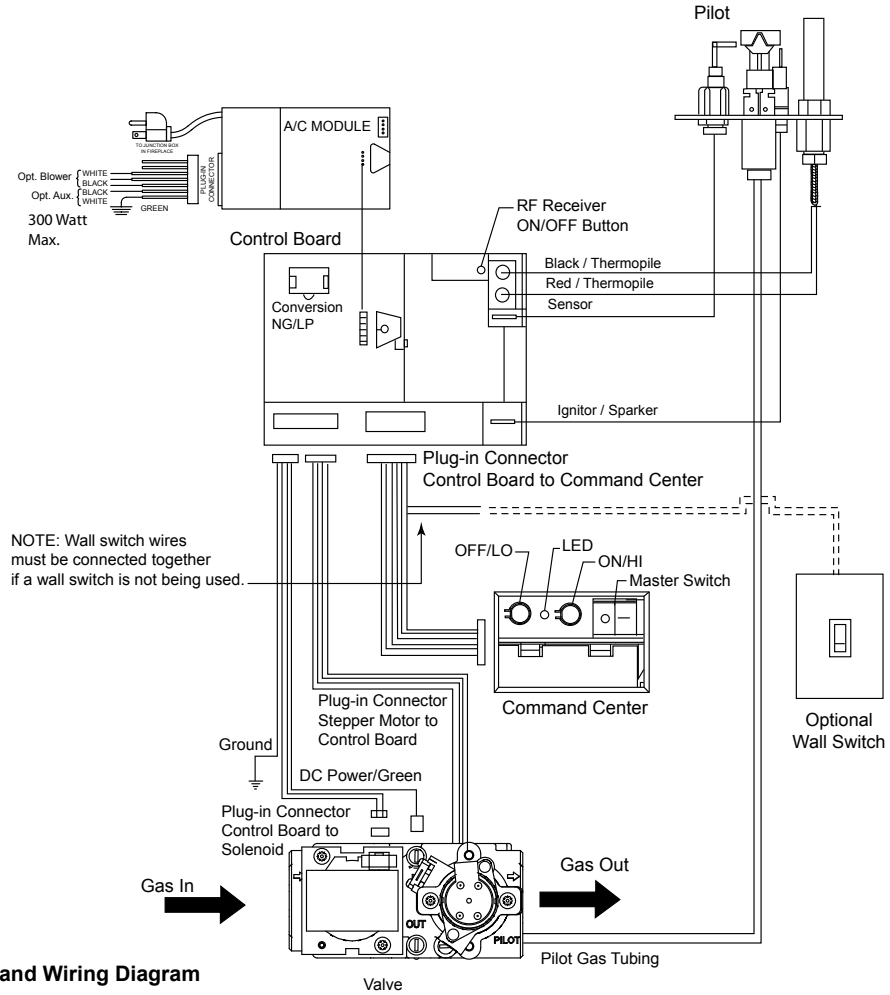

Fig. 52 Signature Command Wiring Diagram
The wall switch wire connection is located off the 2 ft. wire harness from the control box to the command center. Figure 52. The connection is labeled “Wall Switch”. Unplug the male and female connectors and connect the two (2) low voltage wires provided. Run wire to desired location on wall. Up to 50 ft. of 18 ga. wire may be used if necessary. Attach wires to wall switch. Mount the wall switch in to junction box and screw on cover.